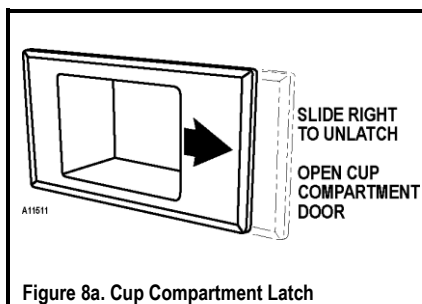

Figure 8a. Cup Compartment Latch
1. Open the cup compartment door by sliding its plastic latch to the right. See **Figure 8a**.